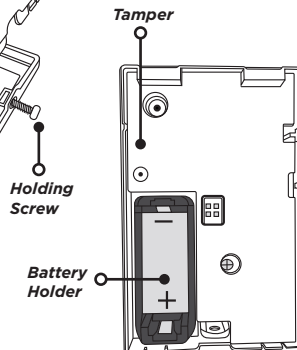

Figure 3: 1128 Battery Location
2. Observing polarity, place the battery in the holder and press into place. See Figure 3 for the battery location.